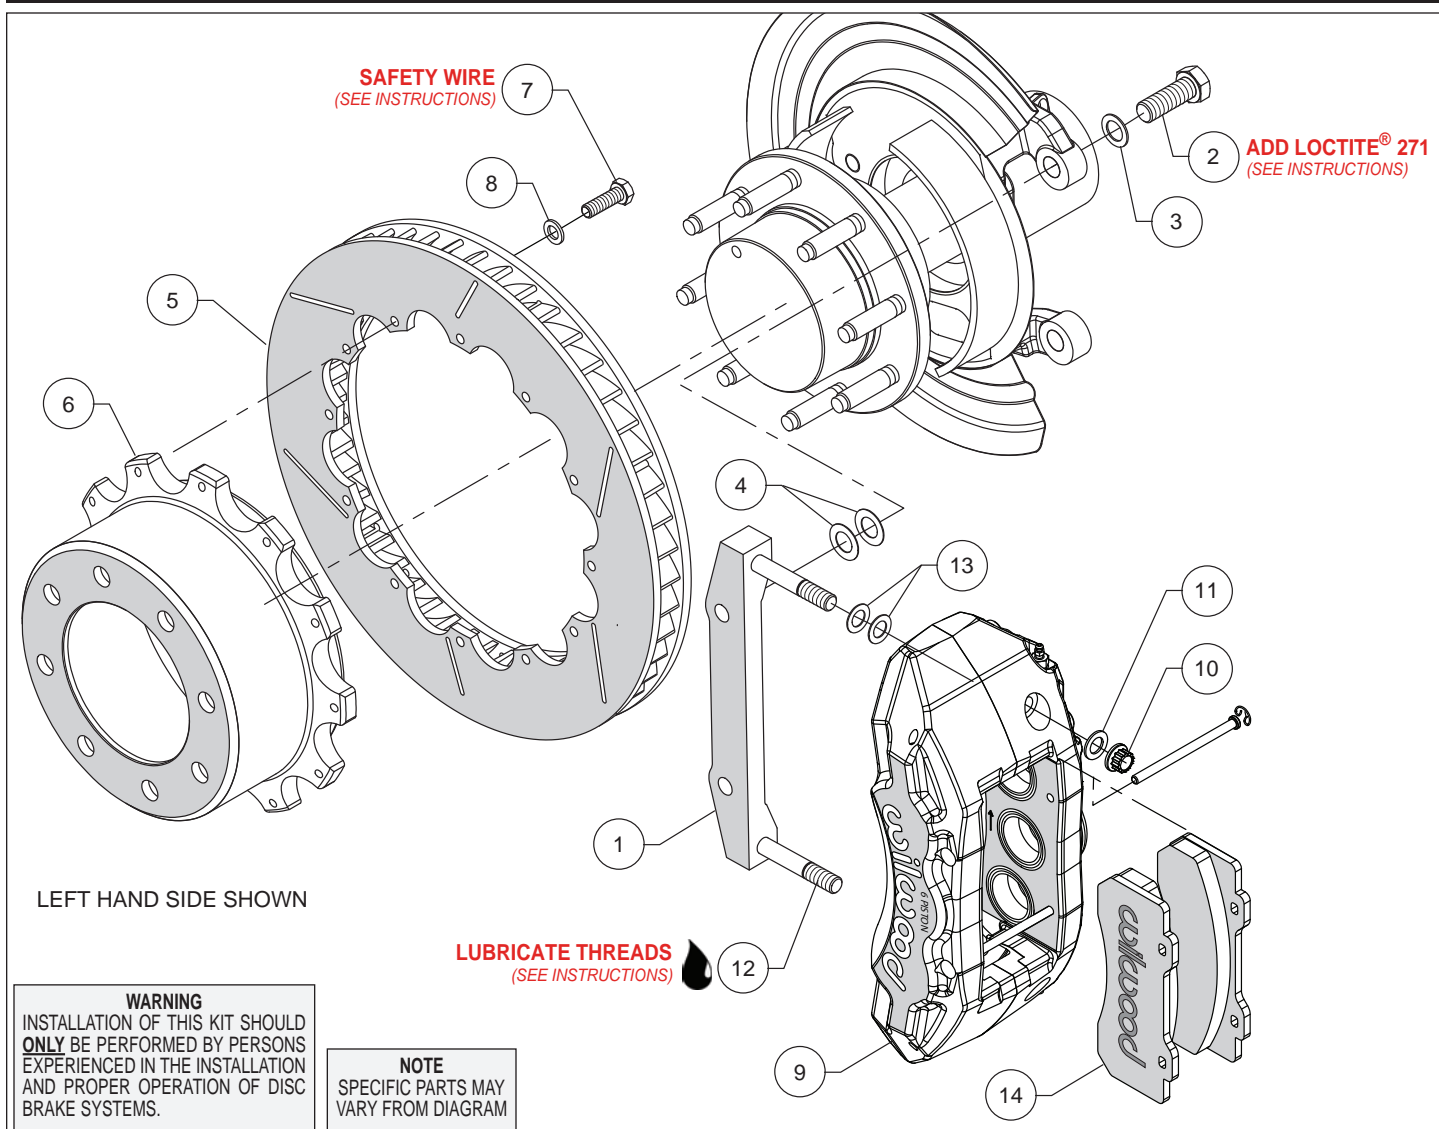
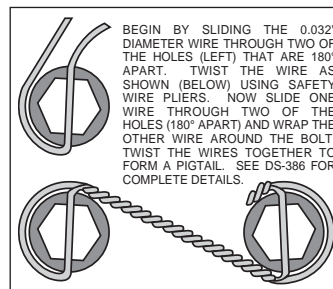

Figure 1. Typical Installation Configuration
Figure 4. Safety Wire Diagram
Assembly Instructions (numbers in parenthesis refer to the parts list and Figure 1 on the preceding pages):
- The caliper mount bracket (1) should initially be installed with clean, dry threads on the mounting bolts. Orient the bracket as shown in Figure 1 and Photo 1, and install using bolts (2) and washers (3). Initially place two .024 thick shims (4) on each bolt between the bracket and upright, Figure 1. Temporarily tighten the mounting bolts. **NOTE:** The bracket must fit squarely against the mount bosses on the upright. Inspect for interference from casting irregularities, machining ridges, burrs, etc. Later, after the caliper alignment has been checked, the mount bolts will be secured using red *Loctite*[®] 271.
- Orient the rotor (5) and the hat (6) as shown in Figure 1 and Photo 2. Attach rotor to hat using bolts (7) and washers (8). Using an alternating sequence, apply red *Loctite*[®] 271 to the threads, and torque to 25 ft-lbs. The bolts must be safety wired using standard 0.032 inch diameter stainless steel safety wire as shown in Figure 4. Please refer to Wilwood's data sheet DS-386 (available at www.wilwood.com/Pdf/DataSheets/ds386.pdf) for complete safety wire installation instructions.
- NOTE:** This kit contains distinct right and left hand calipers that must be mounted in a specific direction, as described below. Lubricate the caliper mounting studs (12) with lightweight oil. Initially place two .032" thick shims (13) on each stud as shown in Figure 1 and Photo 3. Mount the caliper (9) onto the bracket (1) using lock nuts (10) and washers (11), Figure 1. Ensure that the caliper is mounted so that the largest pistons are at the rotor exit end of the caliper, in relation to the direction of rotor rotation. Temporarily tighten the lock nuts and view the rotor through the top opening of the caliper. The rotor should be centered in the caliper, Photo 4. If not, adjust by adding or subtracting shims (4) between the bracket and the upright. Always use the same amount of shims on each of the two mounting bolts. Once the caliper alignment is correct, remove the bracket mounting bolts (2) one at a time, apply red *Loctite*[®] 271 to the threads, and torque to 120 ft-lb.